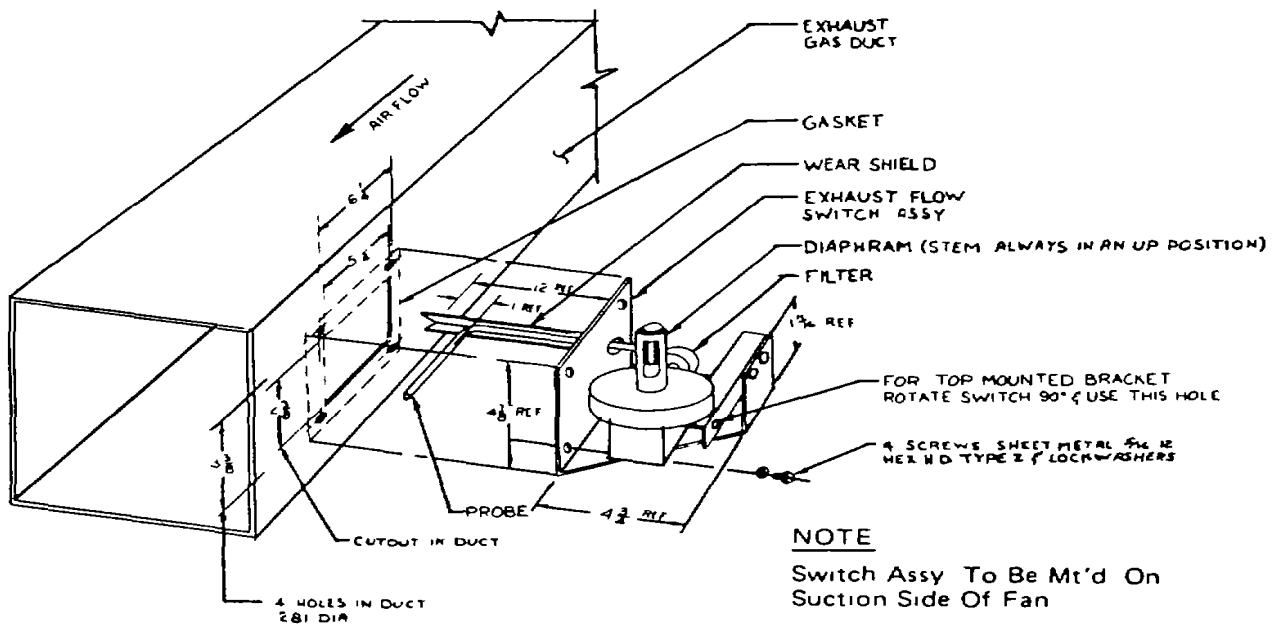

Fig 3-Drawing showing the installation of the exhaust fan flow switch.
8. Mount the exhaust fan flow switch in the dryer exhaust duct as shown in figure 3.